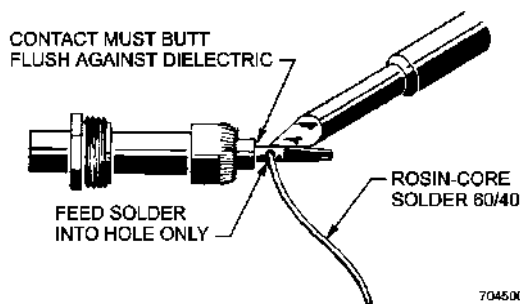

Figure 12-12 Soldering Contact to Coaxial Cable
11. See Section 2, Chapter 7 for general soldering procedures and precautions. For soldering cable to RF connectors, use only 60/40 tin-lead solder with a core of rosin flux. Heat the parts to be joined, and apply the solder at the junction of the soldering iron tip and the work as shown in Figure 12-12. Do not apply heat longer than is necessary to melt the solder; excessive heat will swell the dielectric and make it difficult to insert into the body shell. Do not allow solder to flow over the outside of the contact. After the joint has cooled, remove excess flux by wiping with a clean cloth, using denatured alcohol as a solvent if necessary.